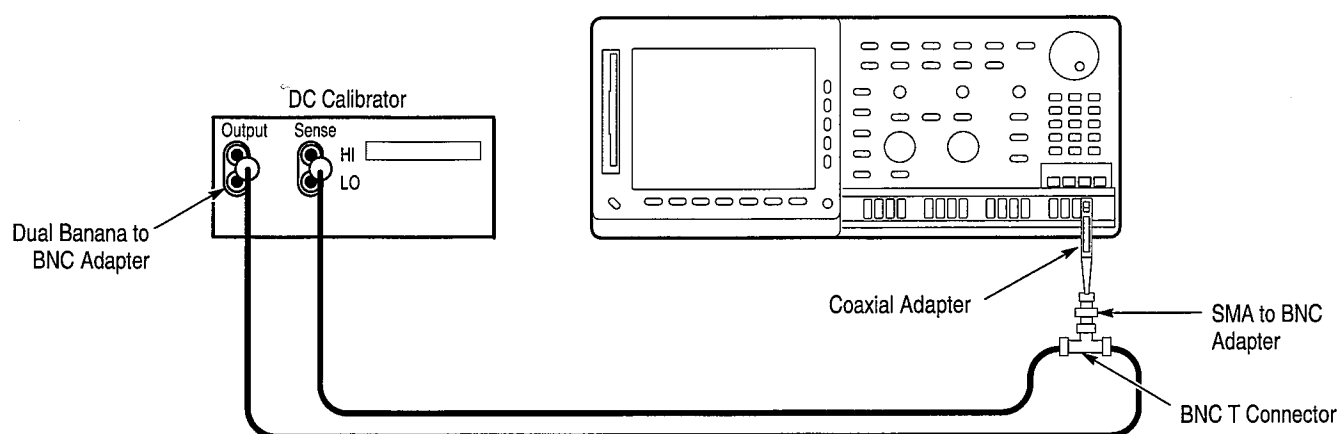

Figure 1–16: Test Hookup for Trigger Threshold Check
- b. Connect the output of the DC calibration generator through a dual-banana connector followed by a 50  $\Omega$  precision coaxial cable to one side of a BNC T connector. (See Figure 1–16)